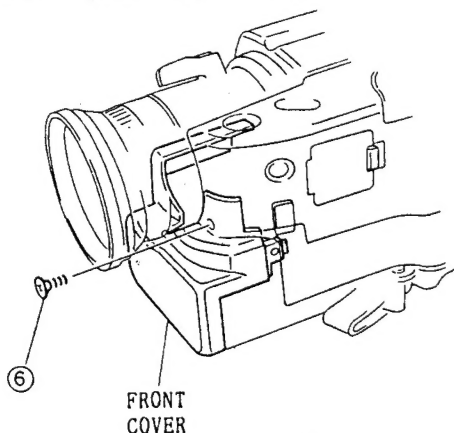

Fig. 2-10
6. Remove one (1) screw holding the front cover. (See Fig. 2-10)
7. Remove the front cover. (See Fig. 2-10)